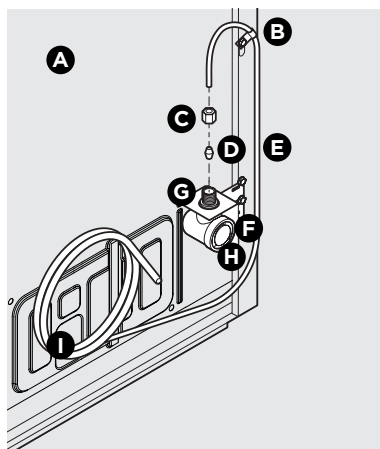
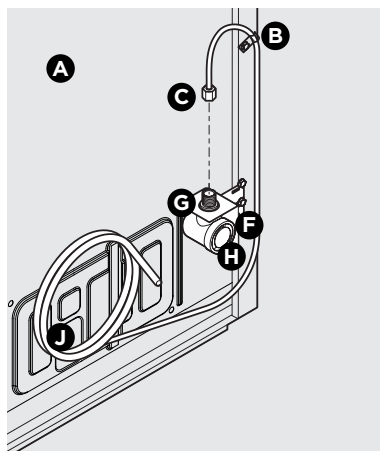

Figure 1
Figure 2
4. If you use **copper tubing** - Slide the brass compression nut and then the ferrule (sleeve) onto the water supply line. Push the water supply line into the water valve inlet as far as it will go ($\frac{1}{4}$ "/6,4 mm). Slide the ferrule (sleeve) into the valve inlet and finger tighten the compression nut onto the valve. Tighten another half turn with a wrench; DO NOT overtighten. See Figure 1.
If you use **braided flexible stainless steel tubing** - The nut is already assembled on the tubing. Slide the nut onto the valve inlet and finger tighten the nut onto the valve. Tighten another half turn with a wrench; DO NOT overtighten. See Figure 2.
B	Steel Clamp (Fig. 1: $\frac{1}{4}$ "; Fig. 2: $\frac{1}{2}$ ")